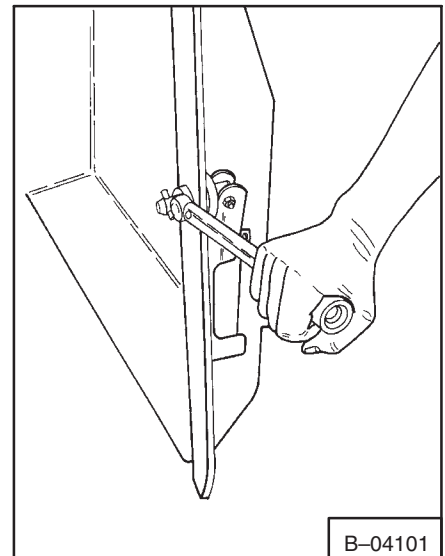

Fig. 5-46 Door Latch Nut
2. Loosen the nut on the end of the latch pin (Fig. 5-46).